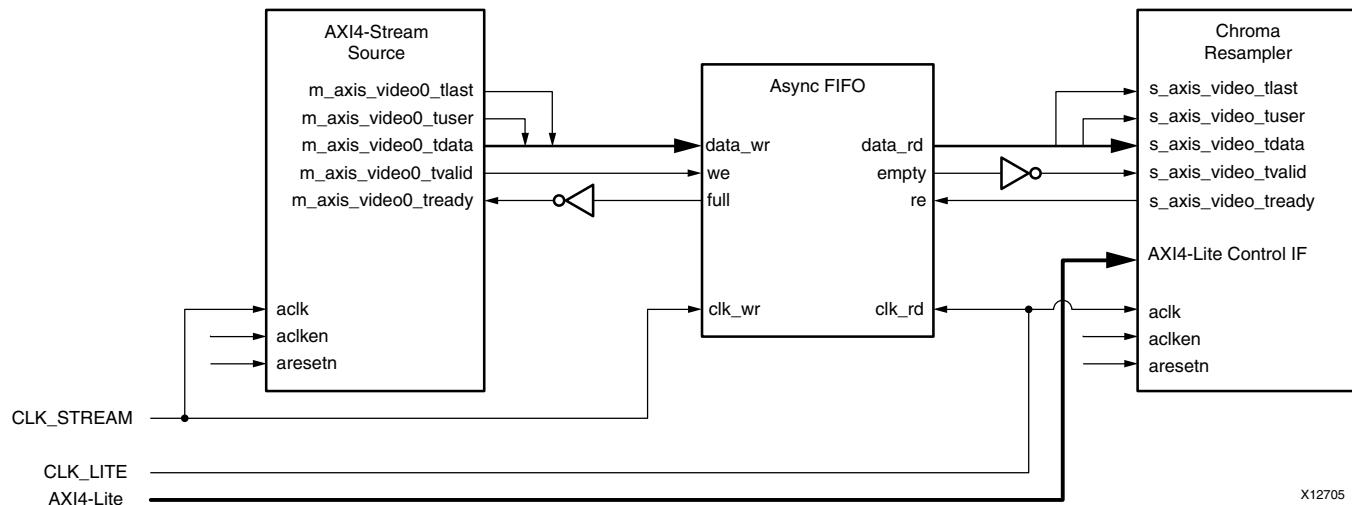

Figure 4-11: Chroma Resampler Top-Level Signaling Interface
- ( $F_{CLK\_STREAM} < F_{CLK\_LITE}$ ) then clock-domain crossing logic needs to be inserted before the AXI4-Stream interface, and the Chroma Resampler needs to be clocked at the AXI4-Lite clock via the `ACLK` pin, as shown in Figure 4-11. Alternatively, if  $F_{CLK\_LITE}$  greater than of the  $F_{MAX}$  of the Chroma Resampler, clock domain crossing logic can be inserted in front of the AXI4-Lite Control interface.
In either case, Xilinx System Integrator tools, such as EDK, can automatically infer clock-domain crossing logic using the AXI interconnect core, when the tool detects that the master / slave side of AXI4 interfaces operate on different CLK rates. For manual instantiation of clock-domain crossing logic, HDL users can take advantage of the FIFO Generator IP core, as shown in Figure 4-11.